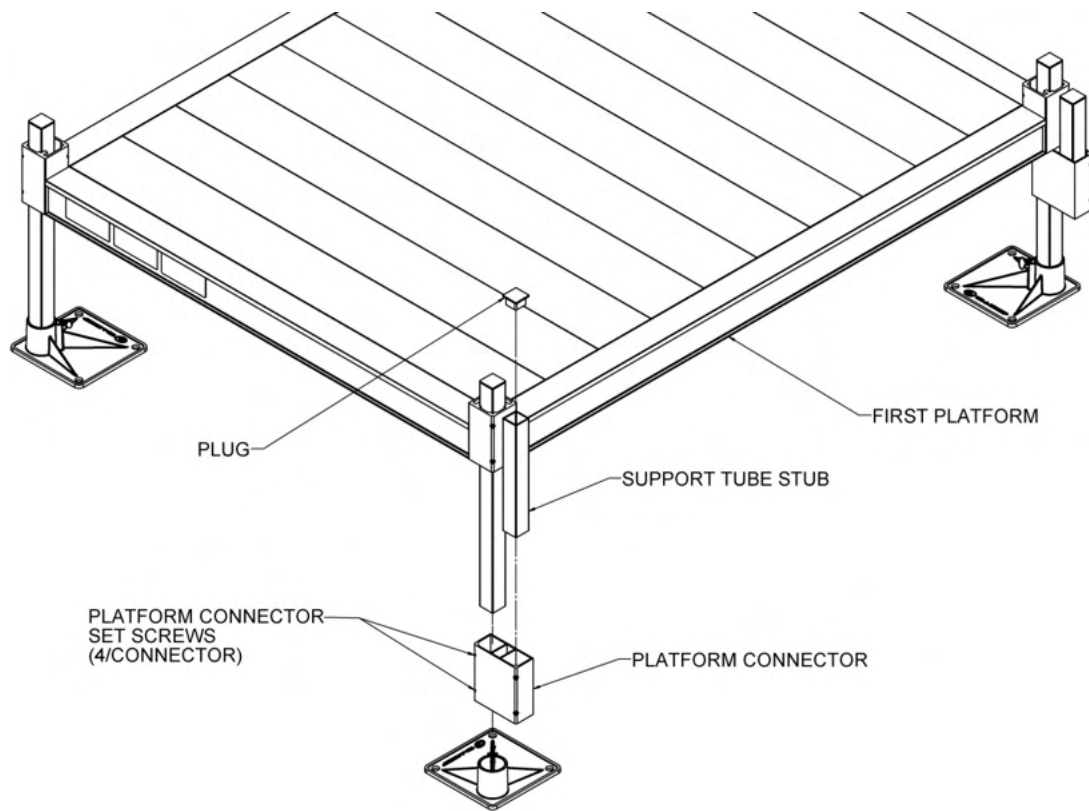

FIG. 2.6
- 2.3.3. Slide the platform connectors up until they contact the bottom of the platform and tighten the set screws securely (FIG. 2.6).
- 2.3.5. Install a plug in the top of each support tube stub (FIG. 2.6).